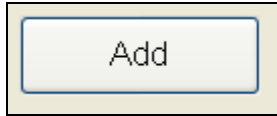

Figure 12.2.2
- Click on the **Add** button at the bottom of this window (Figure 12.2.2).